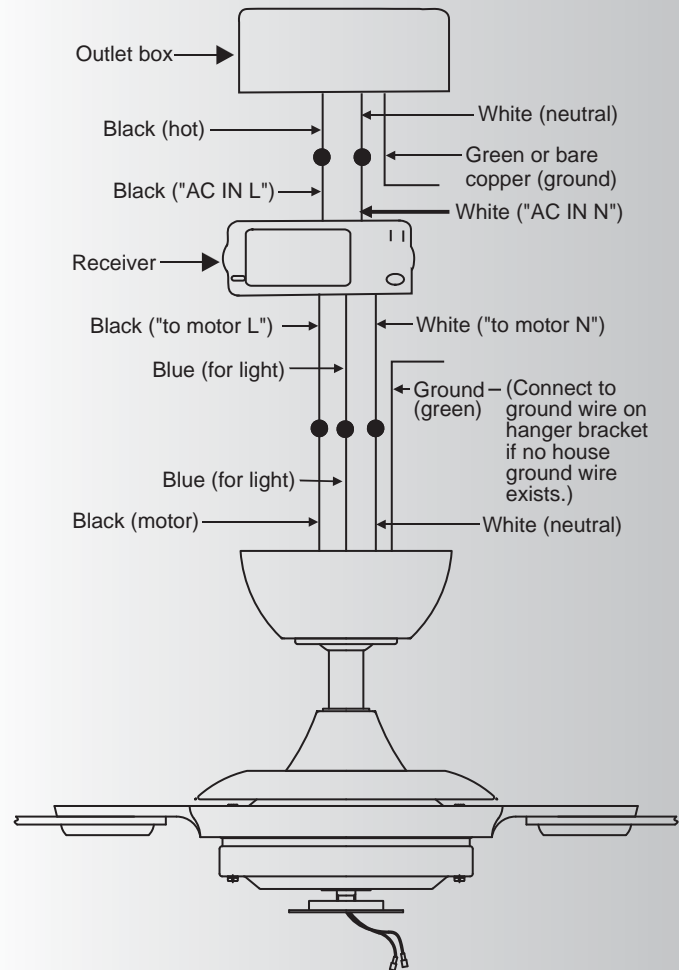

Fig. 17
**Step 2.** Motor to Receiver Electrical Connections: (Fig. 17) Connect the black wire from the fan to the black wire marked "TO MOTOR L" on the receiver.
**Step 3.** (Fig. 17) Receiver to House Supply Wires Electrical Connections: Connect the black (hot) wire from the ceiling to the black wire marked "AC in L" from the receiver. Connect the white (neutral) wire from the ceiling to the white wire marked "AC in N" from the Receiver. Secure the wire connections with the plastic wire nuts provided.
**Step 4.** (Fig. 17) If your outlet box has a ground wire (green or bare copper) connect it to the fan ground wires; otherwise connect the hanging bracket ground wire to the mounting bracket. Secure the wire connection with a plastic nut provided. After connecting the wires, spread them apart so that the green and white wires are on one side of the outlet box and black and blue wires are on the other side. Carefully tuck the wire connections up into the outlet box.